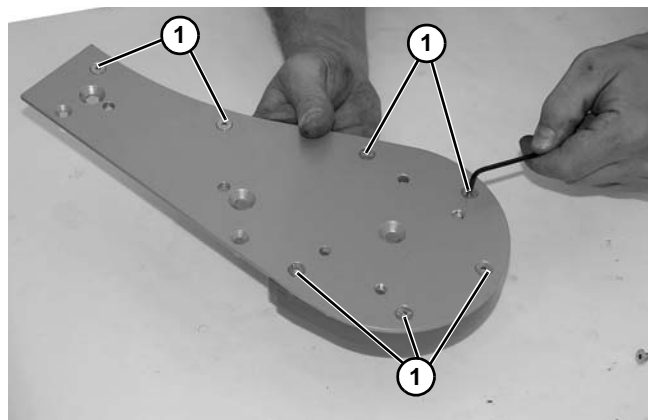

Figure 129
1. Remove seven (7) socket head screws (Figure 129, item 1) from idler head plate assembly.